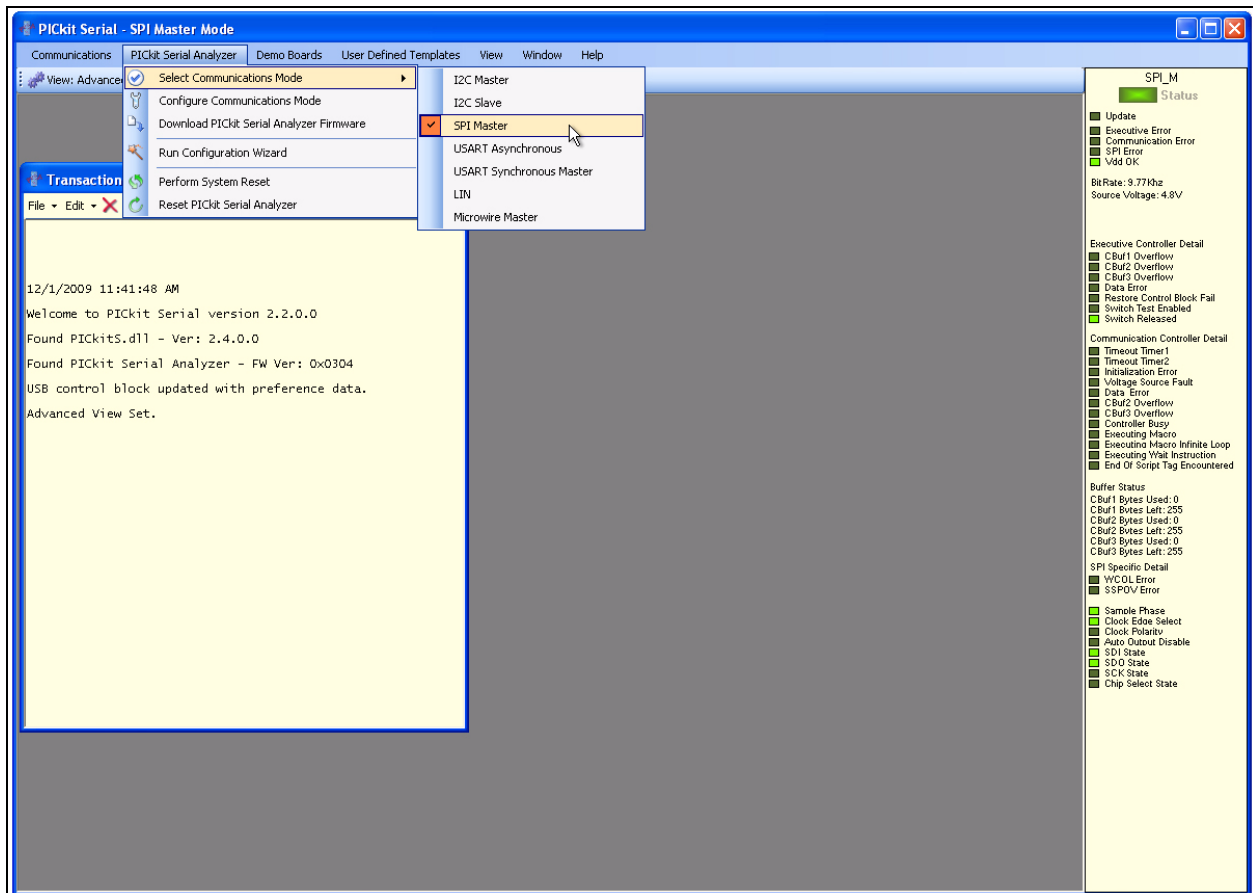

FIGURE 2-5: PICkit™ Serial Selecting Communications Mode.
We need to select the PICkit Serial Analyzer GUI to be in SPI Master mode. Figure 2-5 shows how to select the proper mode. Select *PICkit Serial Analyzer -> Select Communications Mode -> SPI Master* menu item (make sure the SPI Master item is checked).
5. Ensure the GUI is in Master SPI Communication mode (see Figure 2-5).